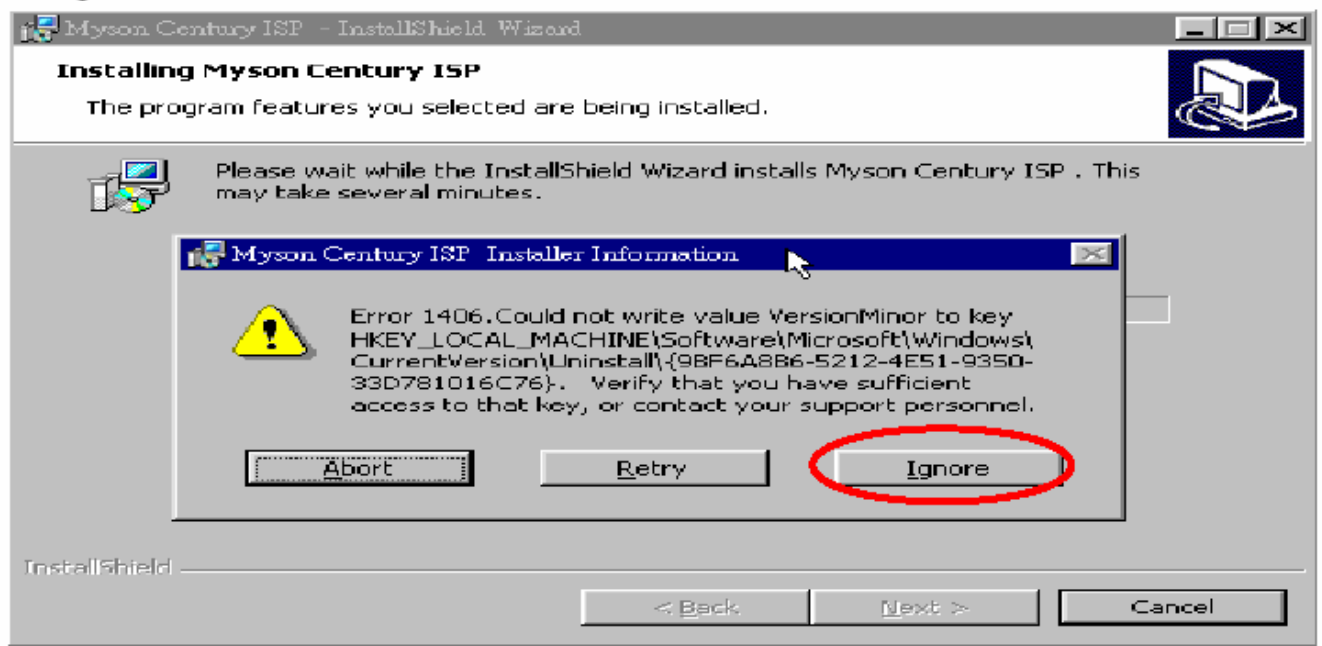

Fig 1.6
1.6 The installer Information shows package warning , Press “ Ignore “ button to continue .see Fig 1.6 .